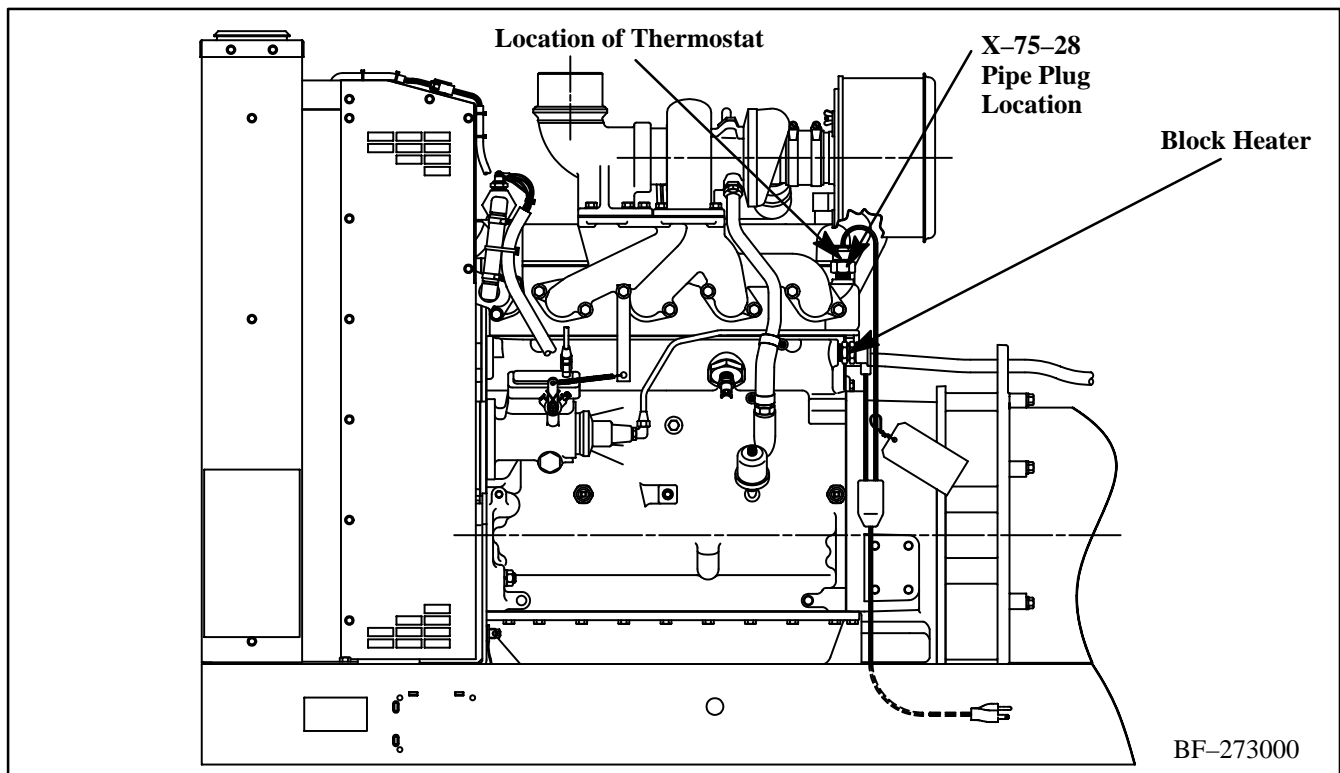

Figure 1. Block Heater Kit Removal (Immersion Type)
3. Remove electrical connections to block heater and thermostat. Discard electrical connections. These parts will not be reused. See Figure 1.
4. Remove thermostat and discard. These parts will not be reused. Clean threads on engine and apply pipe sealant to 1/2 inch pipe plug (X-75-28) and install into block. See Figure 1.